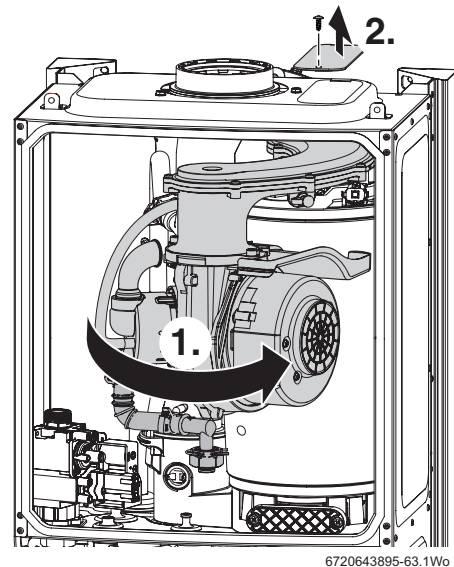
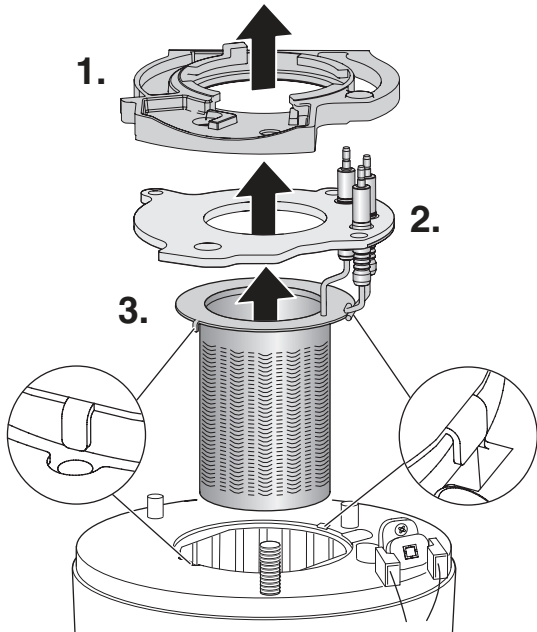

Fig. 82 Rotate air/gas manifold
Fig. 83 Burner removal
1. Refer to figure 82 and rotate fan and air/gas manifold assembly around the top of the heat exchanger until it stops at the lug.
Refer to figure 83
- ▶ Access the heat exchanger flue ways by inserting the cleaning brush (7 716 192 312) through the top access hole in the casing, removal of panel shown in figure 82.
- ▶ Re-assemble ensuring that the lower baffle (2) and the top baffle (1) are refitted correctly.
- ▶ Refer to figure 83 when re-fitting the burner to ensure that it fits centrally within the heat exchanger and location tabs are situated in location holes.